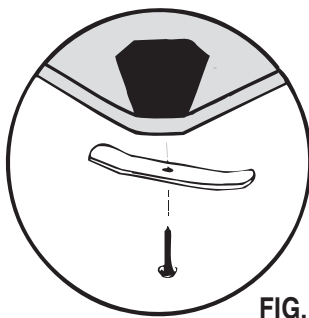

FIG. 3
4. Set sink into the hole. Fasten into place with the locking bars and screws furnished (see Fig. 3). Do not over tighten. Tighten screws until the bars touch the underside of the countertop and will not spin. Wipe off excess caulking.